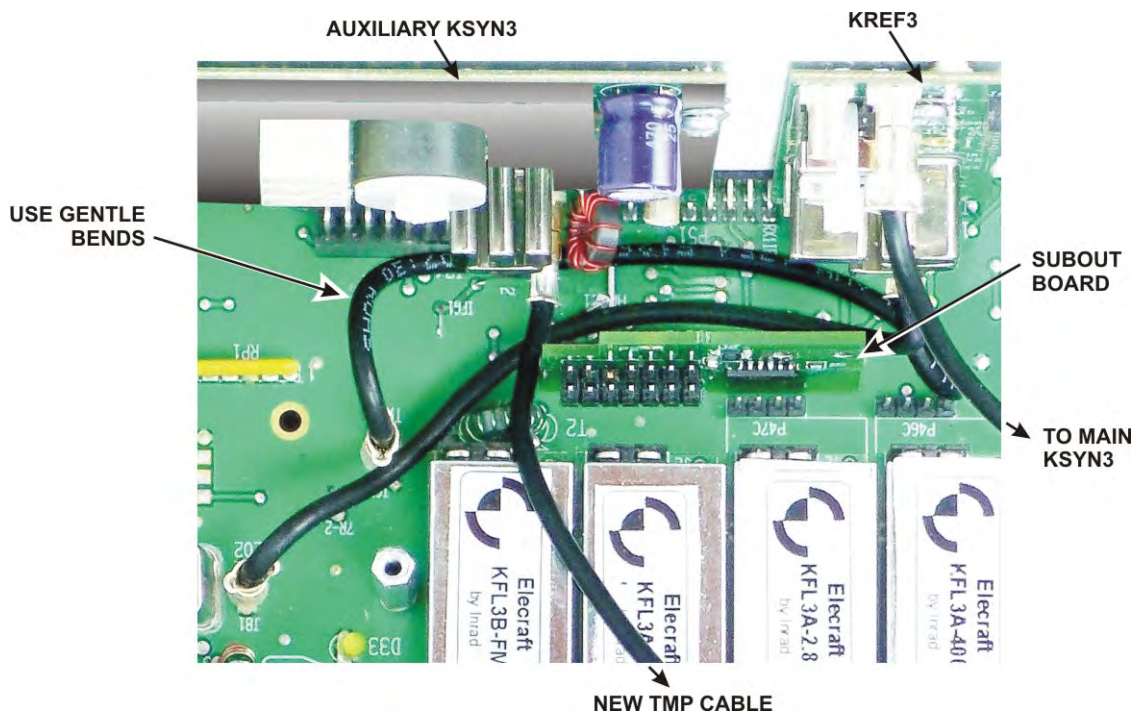

Figure 48. Positioning the TMP Cables.
□ Position the TMP cables so they will be out of the way when you install the KRX3 module. Figure 48 shows a suggested arrangement. The exact cable positions are not important as long as they are below the top of the SUBOUT board and so they will not interfere with installing the KRX3 module. Avoid kinking the cables. Arrange them with smooth bends. You may need to unplug one end of the cable and twist the coax slightly so it will lie in smooth curves where needed.